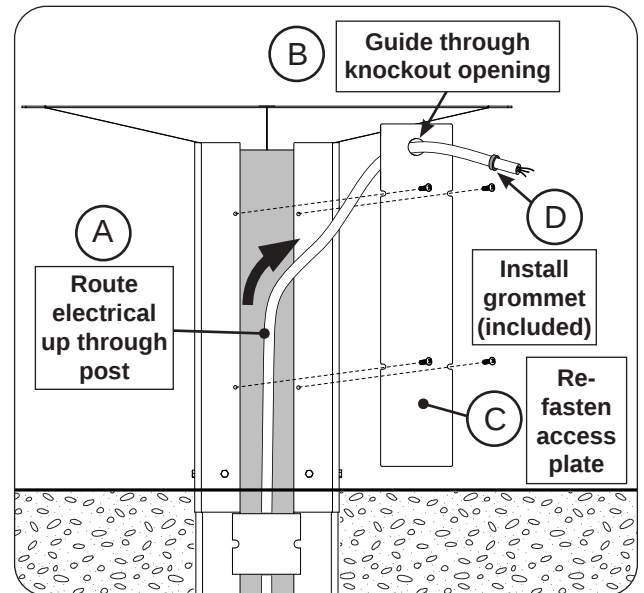

Fig. 31-1 Remove access plate and knock-out
- Guide wiring up the post assembly (See Fig. 31-1, A).
- Feed the electrical through the knockout hole of the access plate (see Fig. 31-1, B) and re-fasten the access plate (see Fig. 31-1, C).
- Install the grommet (included) onto the electrical and slide the grommet up against the knockout hole and snap into place (See Fig. 31-1, D).